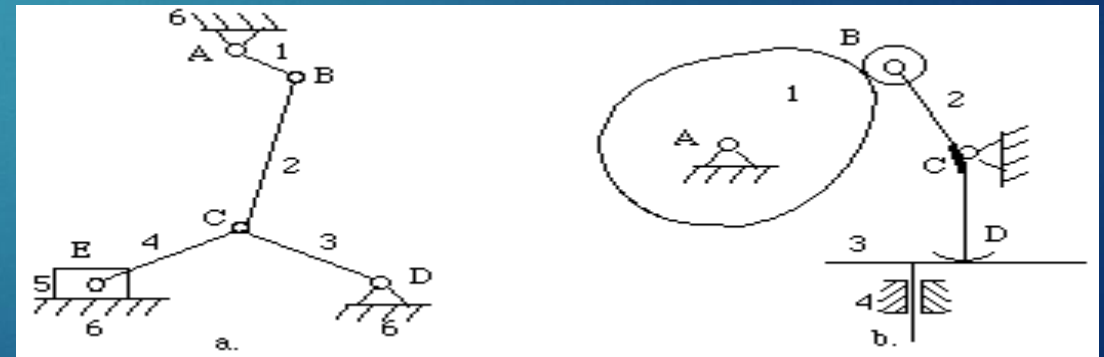

Figure 4-15 Degrees of freedom calculation
- ▶ Calculate the degrees of freedom of the mechanisms shown in Figure 4-15.